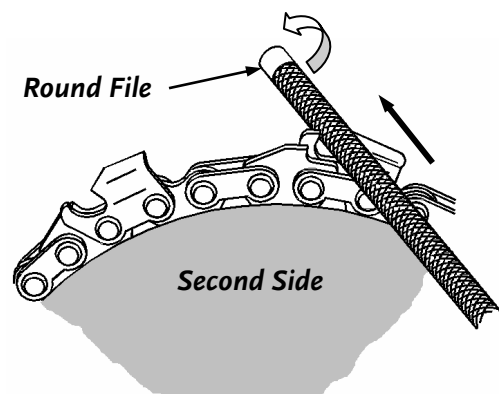

Figure 11
5. Turn the BEAVER BLADE around to sharpen the other side. Change the angle of the round file to follow the angle of the cutting edge for teeth on this side (**Figure 11**). Start sharpening at your mark. Sharpen the teeth that have not yet been touched. Remember to pay attention to the angle of the file on the tooth and use the same number of strokes per tooth. Twist the file a half turn with each stroke into the cutting edge of the tooth, and don't bear down on the file. Sharpen every other tooth until you get back to your mark.